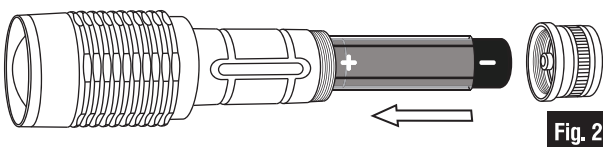

Fig. 2
**FLASHLIGHT OPERATION:** Insert the plastic Battery Sleeve into the flashlight as shown (Fig. 2). Insert one lithium-ion 18650 battery by inserting the “+” end into flashlight first as shown (Fig. 2). Replace tailcap by turning clockwise.